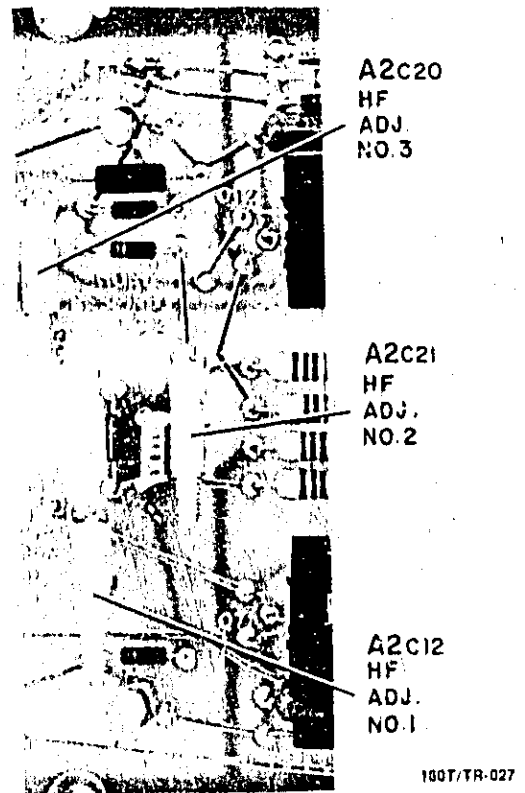

Figure 5-22. Linearity Adjustment Location.
- Adjust HF Adj No. 1, A2C12, No. 2, A2C21, and No. 3, A2C20, for best overall linearity of center 80 divisions of available display. Use HORIZONTAL POSITION control to permit viewing right, center, and left portions of display. HF Adj No. 1 affects right portion, HF Adj No. 2, center portion, and HF Adj No. 3, left portion of sweep (see figure 5-22).